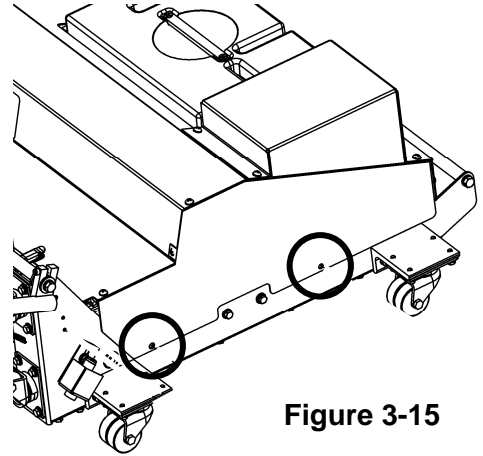

Figure 3-15
1. Remove the two screws, shown in Figure 3-15, from both sides of the hood and lift the hood from the frame. Set aside the screws.